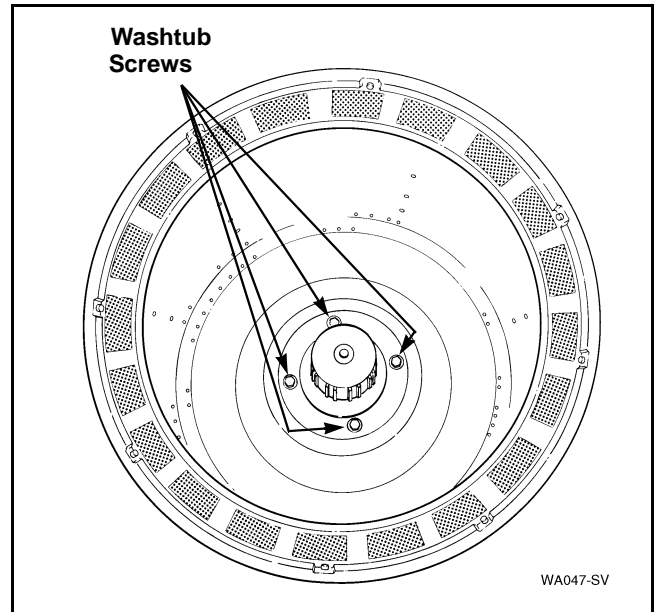

Figure 32
- e. Remove four screws and washers holding washtub to hub. Refer to *Figure 32*.
- Remove the four screws holding washtub to hub, then lift washtub out of outer tub. Refer to *Figure 32*.